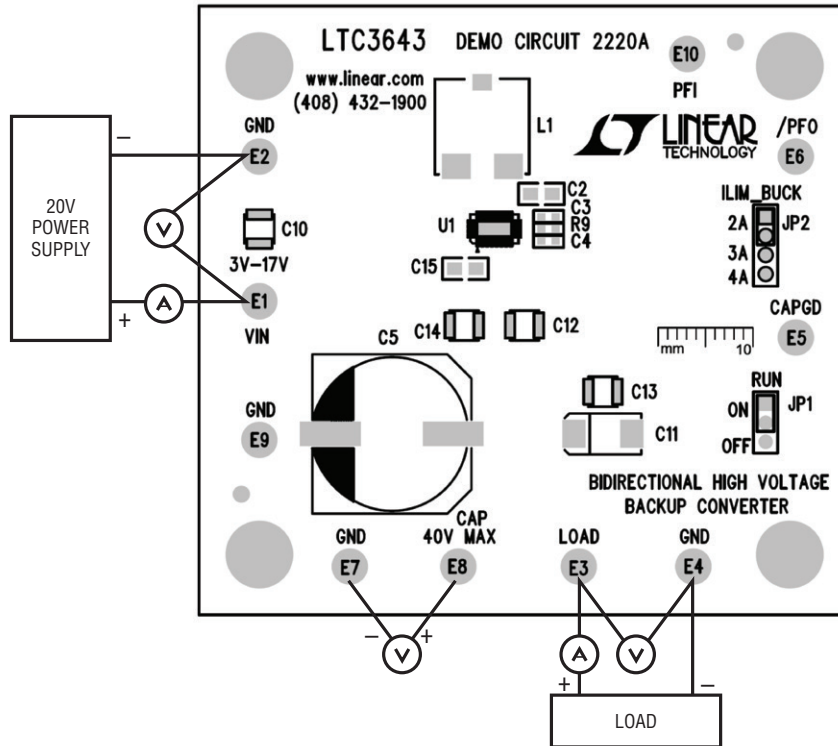

Figure 1. Proper Measurement Equipment Setup
Demonstration circuit 2220A is easy to set up to evaluate the performance of the LTC3643 bidirectional regulator. Refer to Figure 1 for the proper measurement equipment setup and follow the procedure below.
3. With power off, connect the input power supply to terminals  $V_{IN}$  (E1) and GND, voltmeter to  $V_{CAP}$  (E8) and GND, load to LOAD (E3) and GND as shown on Figure 1.